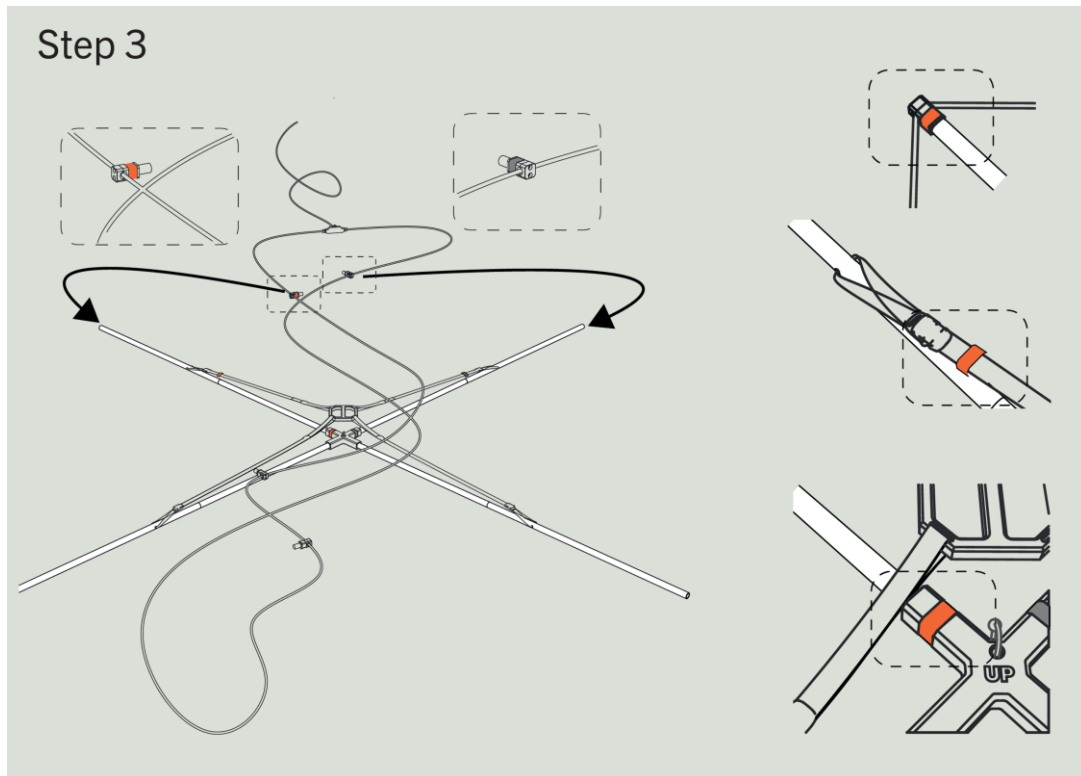

Figure 13. Mounting Rx and Tx coils.
- Orange and grey markers indicating the orientation of the coil (see Figure 13).